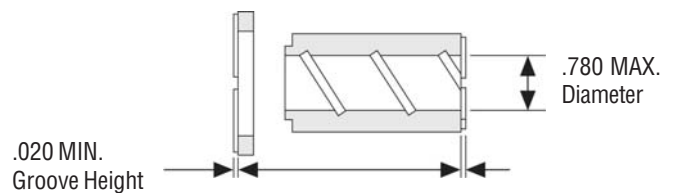

Figure 4
1. Check impeller drive bushing (item 3A) and impeller thrust washer (item 2A). If cracked, chipped or scored, then replace. Replace if minimum groove height is less than the minimum height recommended. See Figure 4.